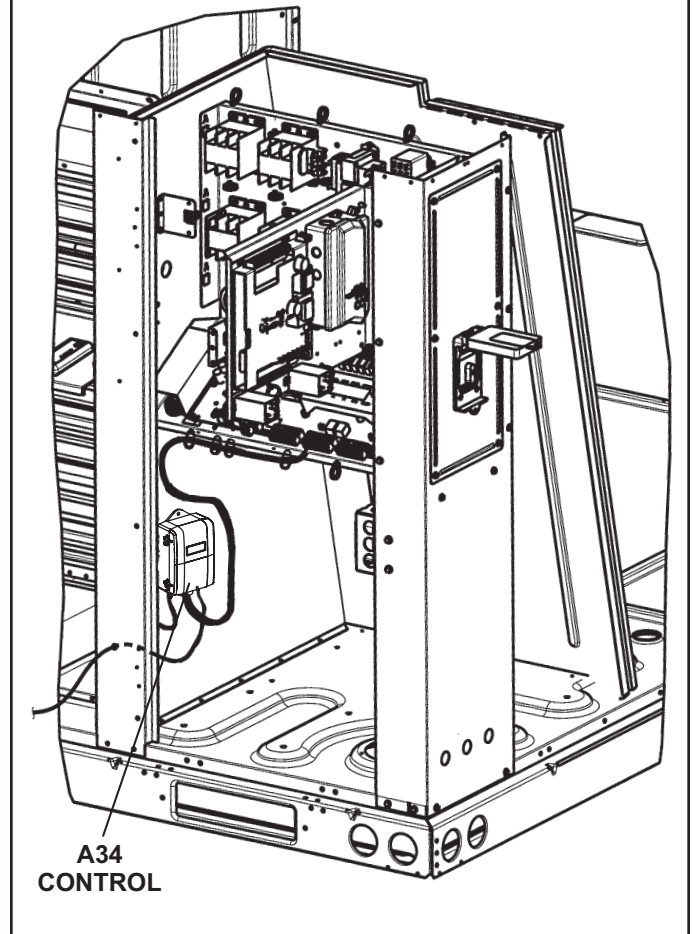
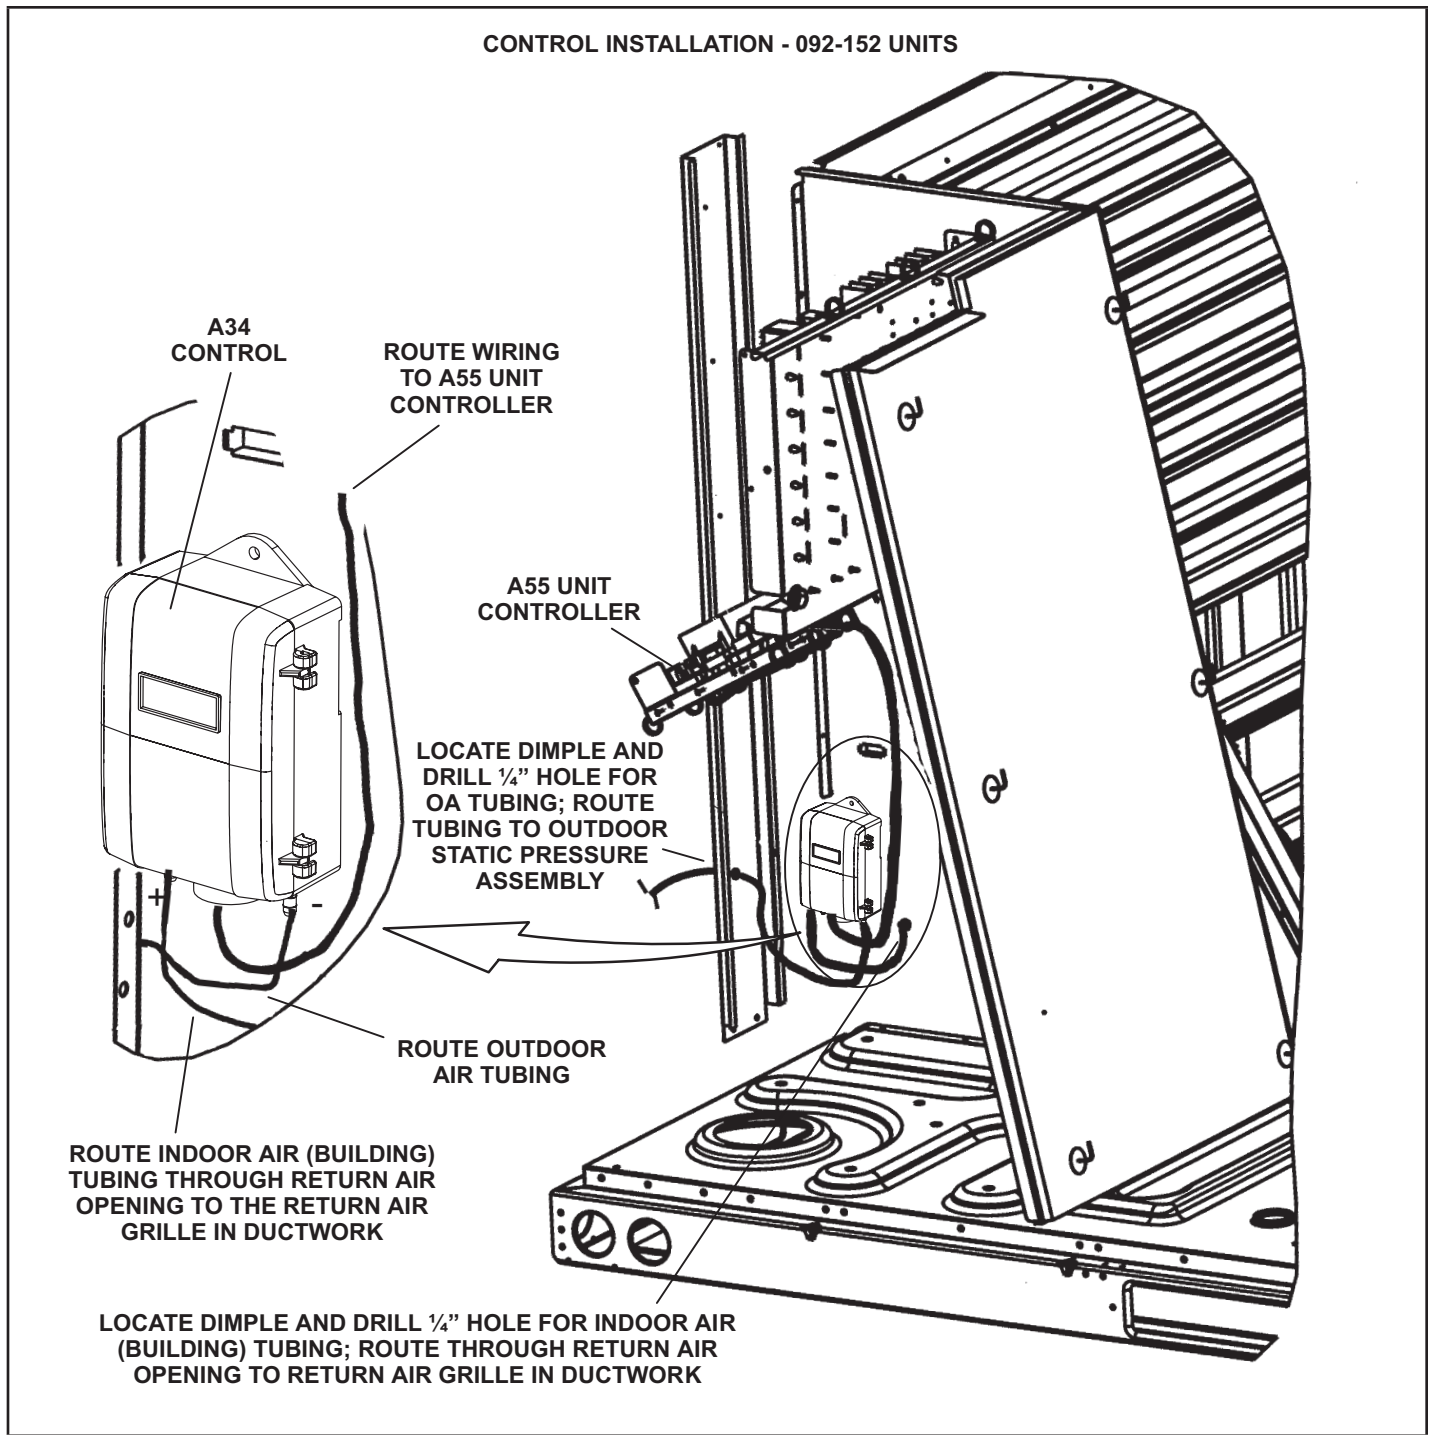
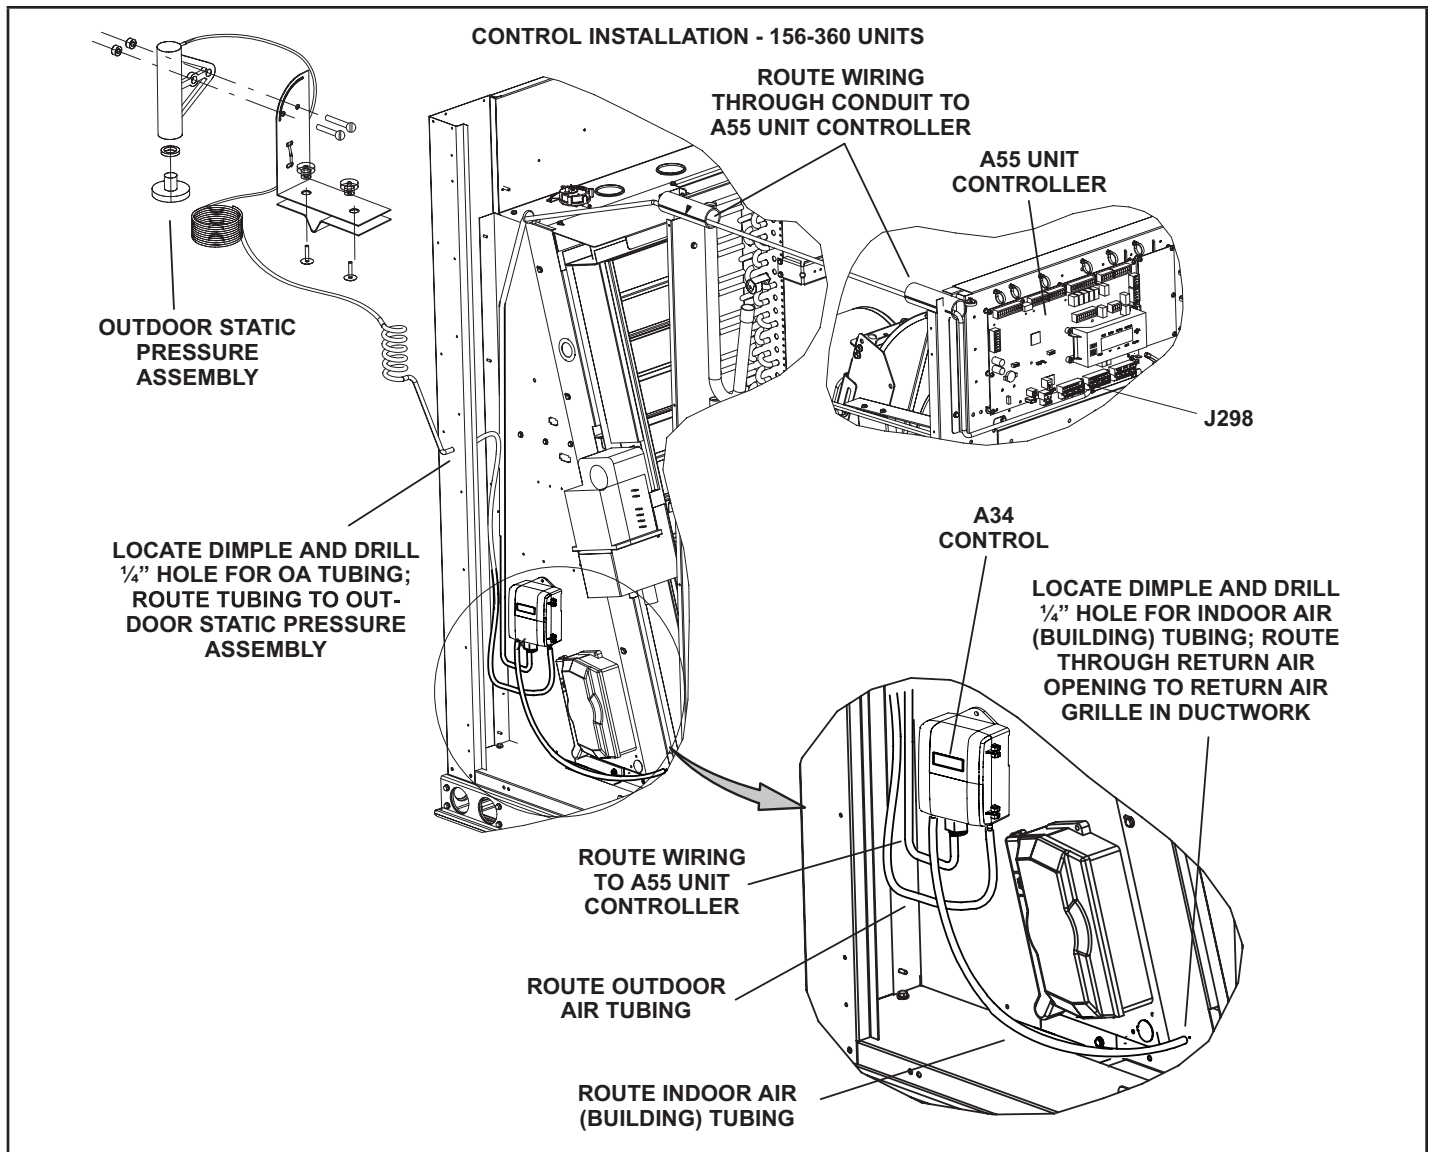

FIGURE 1
FIGURE 2
FIGURE 3
- 3 - Install the A34 sensor as shown in FIGURE 1 or FIGURE 2 for 092-152 units and FIGURE 3 for 156-360 units. Secure sensor with two #10 self drilling screws.
- 6 - Route the other end of three-wire cable to the A55 Unit Controller J298. See FIGURE 1 or FIGURE 2 for 092-152 units and FIGURE 3 for 156-360 units.
- 8 - Attach outdoor air tubing to the A34 control (-) port and the indoor air (building) tubing to the (+) port. Drill 1/4" holes and route air tubing as shown in FIGURE 1 or FIGURE 2 for 092-152 units and FIGURE 3 for 156-360 units.